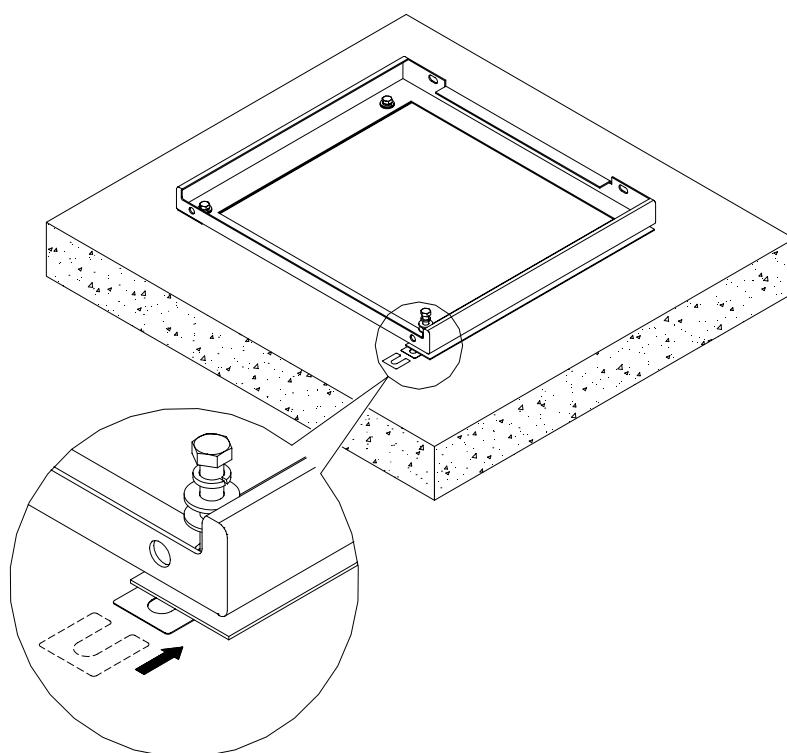

Figure 2-10 Leveling the lower support
- 3) When an error occurs, adjust the levelness by adding gaskets beneath the lower support, as shown in Figure 2-10.